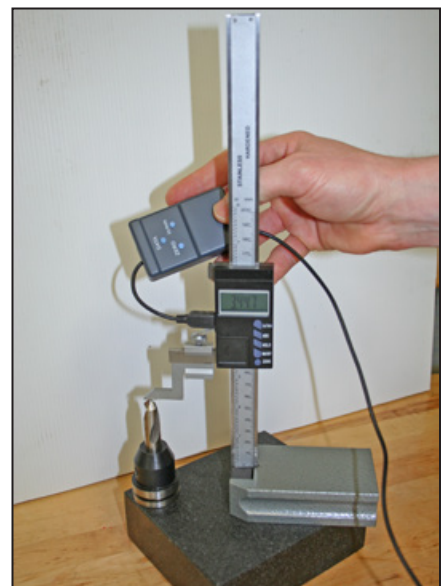

Figure 6.20
The Tormach Tool Assistant Set (PN 31988) includes an 8" digital height gauge and a USB interface cable with touch trigger (see **Figure 6.20**).
NOTE: *Granite Surface Plate with Integrated Tool Hole (PN 31713)*, as shown in **Figure 6.20**, helps accurately measure tool length.
3. To measure tool height, mount the tool in a TTS tool holder and place on a block (see **Figure 6.20**). The tool height measurement is the distance from the block surface to the end of the tool tip.